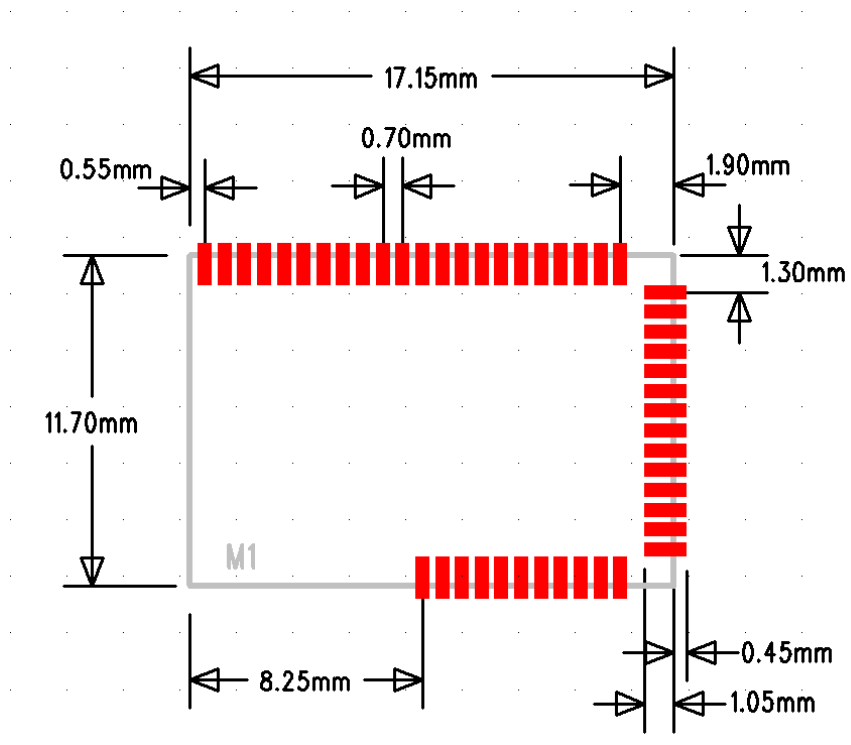
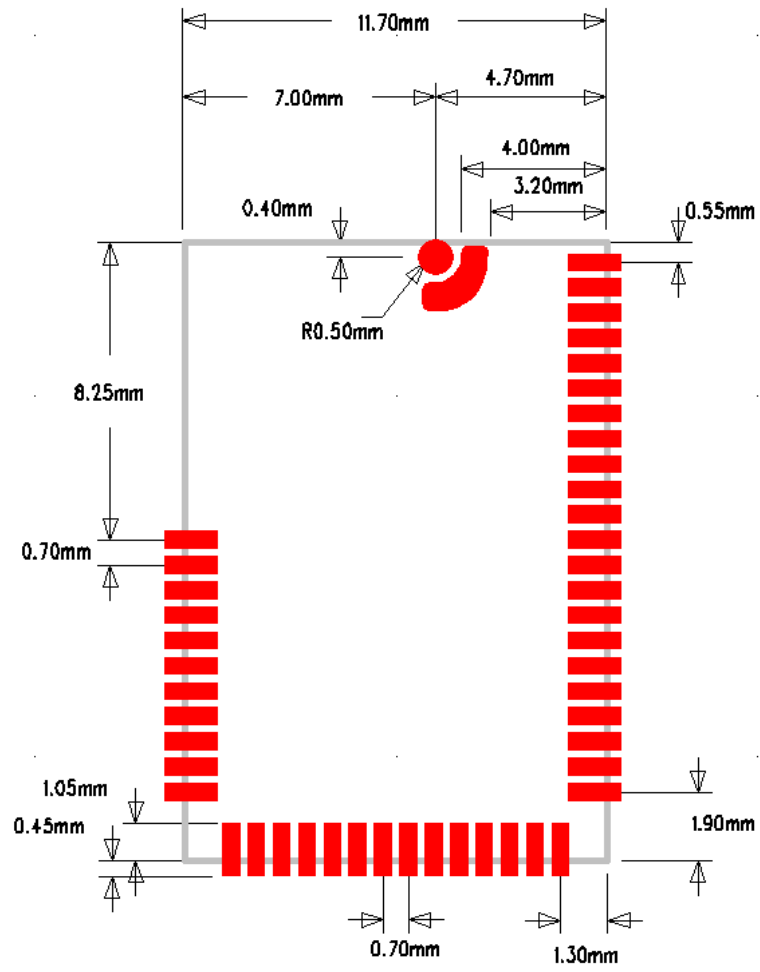

Figure 30: WT21-A recommended PCB land pattern
Figure 31: WT21-N recommended PCB land pattern
Do not connect RFTP for WT21-A. See figure 30 for the recommended PCB land pattern. The impedance matching of the antenna is design for the evaluation board of WT21. For an optimal performance of the antenna the layout should strictly follow the layout example shown in figure 31 and the thickness of FR4 should be 1,6 mm. Any dielectric material close to the antenna will change the resonant frequency and it is recommended not to place a plastic case or any other dielectric closer than 5 mm from the antenna. If this is not possible, or if using other thickness of FR4 than 1,6 mm, then the antenna can be retuned by removing extra FR4 under the antenna. Please, contact Bluegiga for the details.
- Do not place a ground plane underneath the antenna. The grounding areas under the module should be designed as shown in Figure 31.